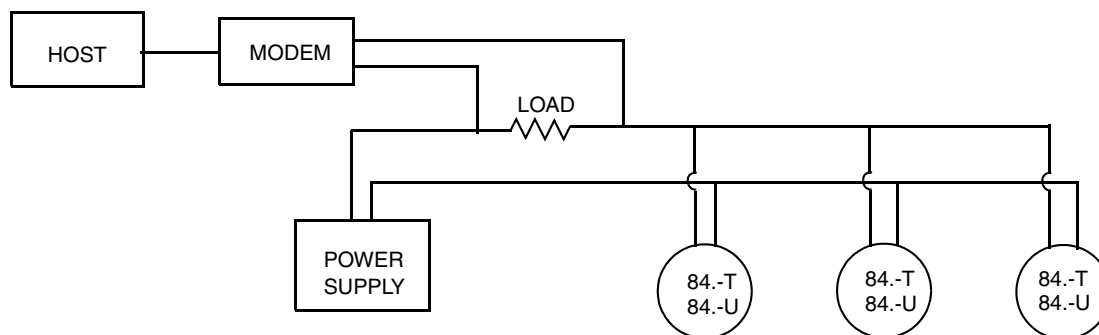

Figure 35. Typical Multidrop Network
Figure 35 shows a typical multidrop network. Do not use this figure as an installation diagram. Contact the HART Communications Foundation, (512) 794-0369, with specific requirements for multidrop applications.